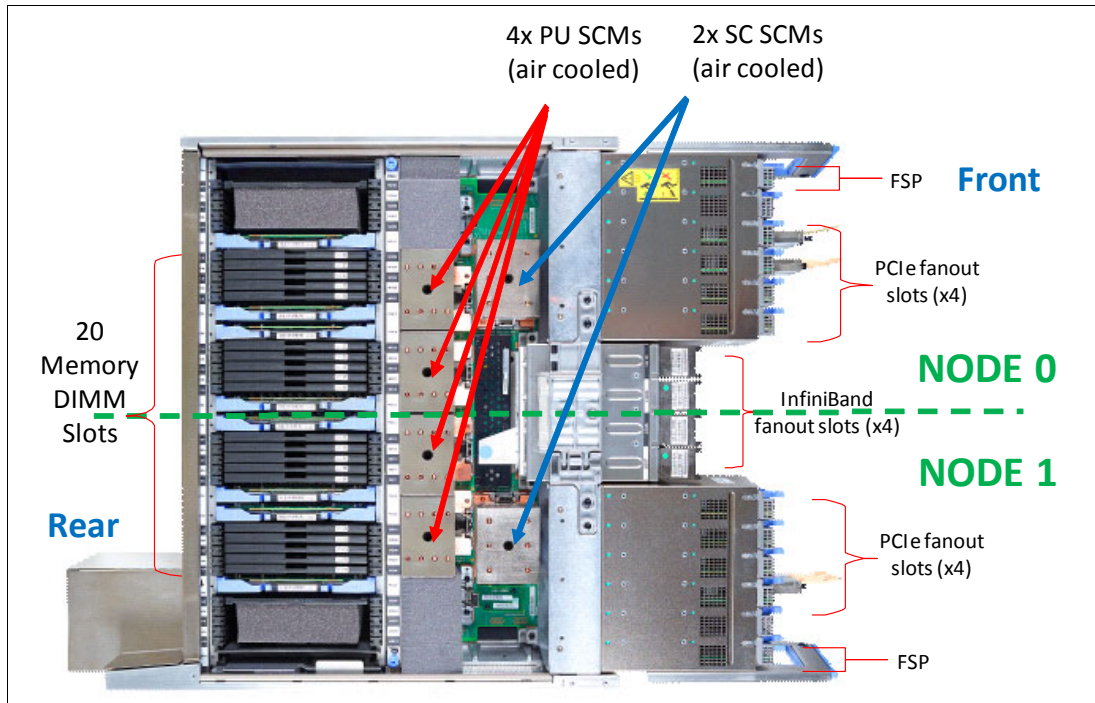

Figure 2-5 Model N20 components (top view)
- ▶ Two node drawer contains (Figure 2-5 on page 41):